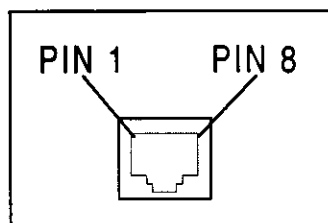

Figure 3-6. RJ-45 Tributary Socket Pin Numbering
- Step 5.** Install tributary data signal cables on the IDU "TRIB" connectors. Use 75Ω BNC male connectors for 2x/4x, E3, and DS3 unbalanced systems, RJ-45 plugs for 2x/4x balanced systems, and DB25 connectors for 4x/8x and 16E1 systems. Refer to the Table 3-5 and Figure 3-6 for RJ-45 wiring details and Table 3-6 for DB25 wiring details: